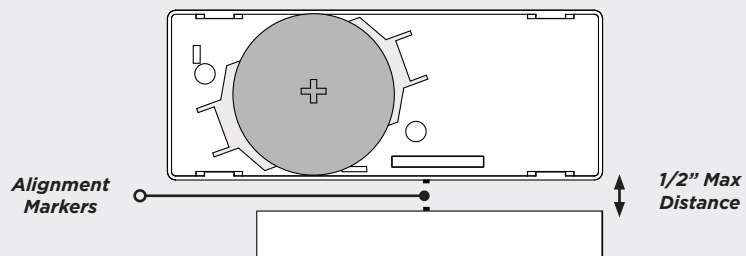

**Figure 3: Mounting Hole Locations**
2. Place the two supplied #4 flat-head screws into the mounting holes to secure the housing base to the surface. See Figure 3.
For environments where the cover could be dislodged, use the optional #4 pan-head securing screw instead of the center flat-head screw to secure the transmitter and cover to the mounting surface. See Figure 3.